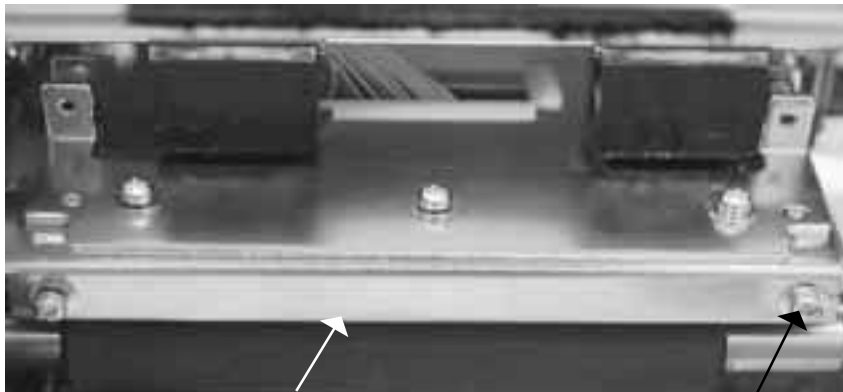

Fig. 5-5
2.	Loosen the (2) retaining screws and reposition the guide plate. Retighten the screws. Fig. 5-5 Recheck the ribbon alignment and print. If results are still not satisfactory, perform Ribbon Tension Balance Adjustment. See Section 5-4.